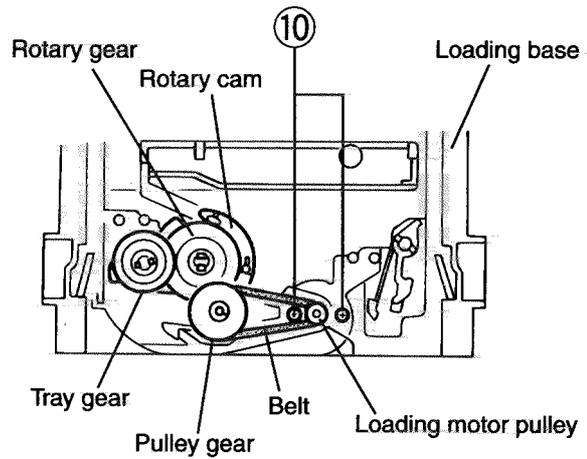

Fig. 11
■ **Removing the Parts for Loading (See Fig.11)**
■ **Removing the Loading Motor Board (See Fig.11 and 12)**
3. Remove the belt from the loading motor pulley on top of the loading base, then the two screws ⑩ attaching the loading motor.
4. Reverse the loading base, remove the screw ⑪ attaching the loading motor board and release tab A. Lift the loading motor board in the direction of the arrow to release tab B.
(See Fig.11 and 12)